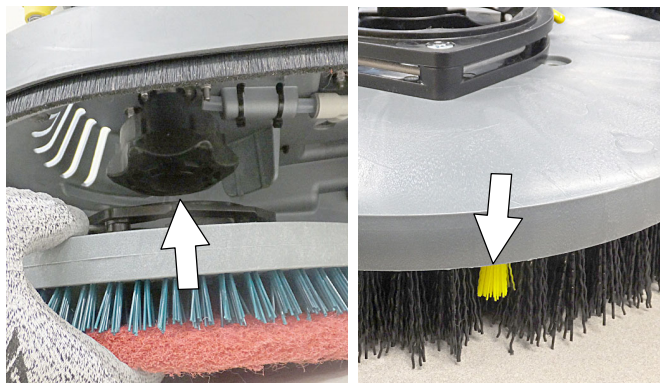

FIG. 13
- Align the pad driver or brush under the motor hub and push it upward to engage hub (Figure 13).
Replace pads or brushes when they no longer clean effectively or when the bristles on the brush disk are worn to the yellow indicator (Figure 13).